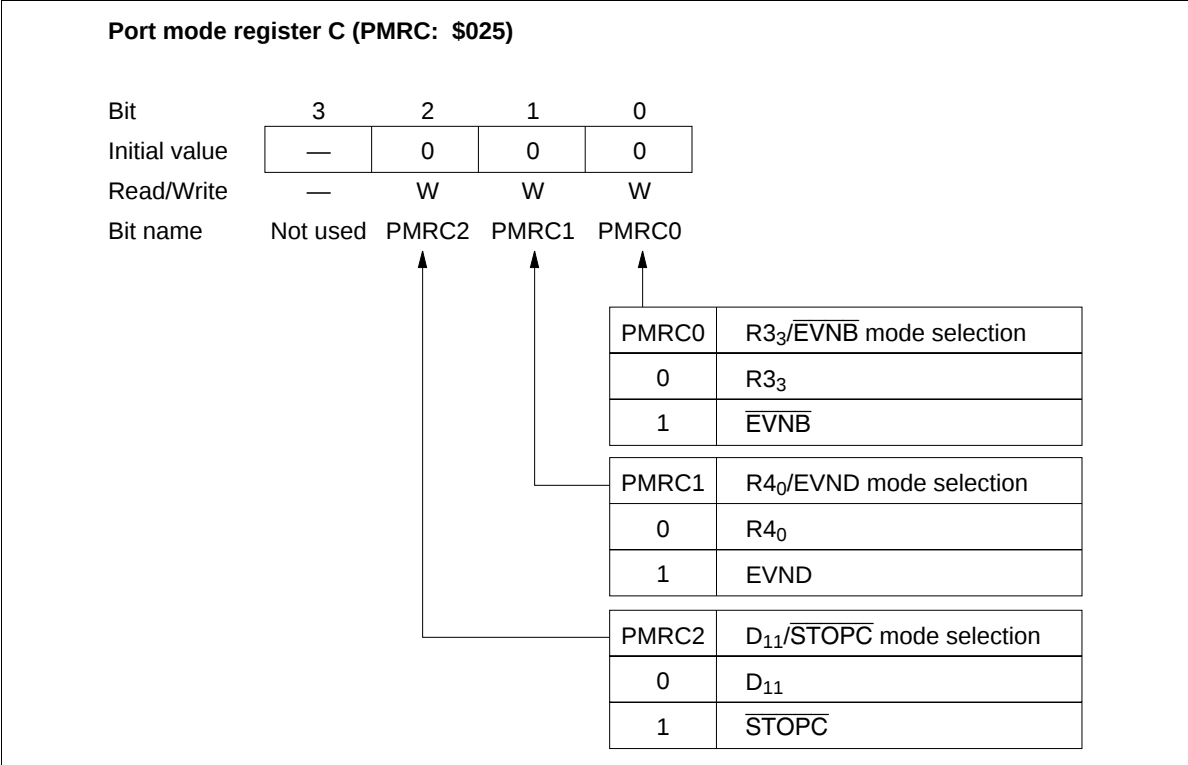

Figure 51 Port Mode Register C (PMRC)
- Port mode register C (PMRC: \$025): Write-only register that selects the R3₃/ $\overline{\text{EVNB}}$ pin function (figure 51). It is reset to \$0 by MCU reset.